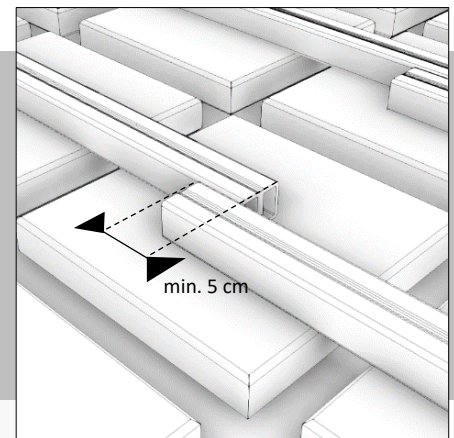

FIG. 3
- Never connect the joists with butt joints, make sure they overlap each other by at least 5 cm (Fig. 3).